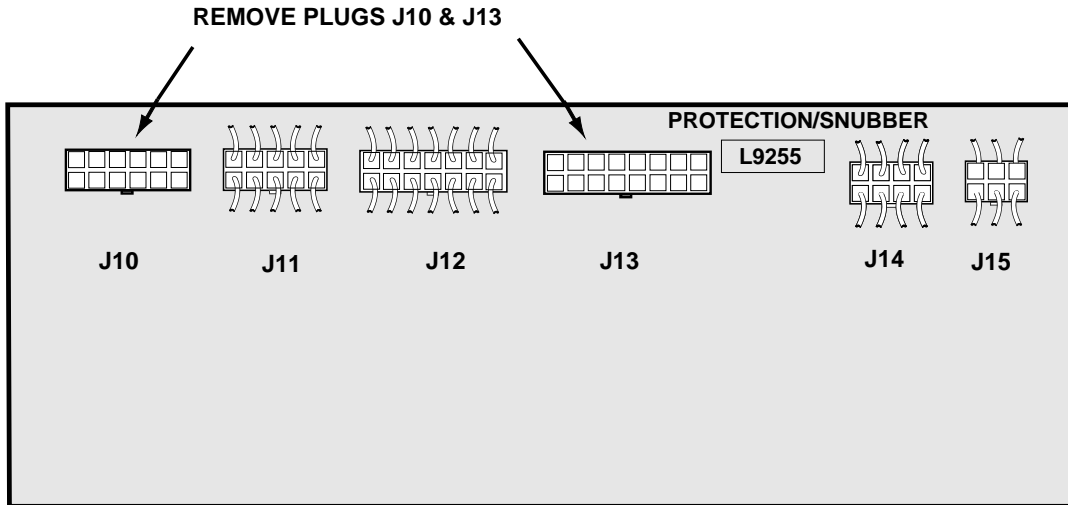

FIGURE F.13 - PROTECTION/SNUBBER BOARD PLUG LOCATIONS.
2. Remove plugs J10 and J13 from protection/snubber board. See Figure F.13.